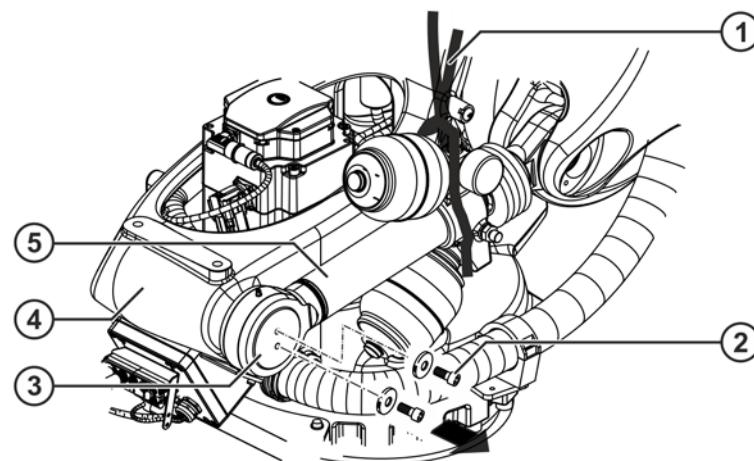

Fig. 11-21: Removing the counterbalancing system: rotating column
10. Remove 2 Allen screws and lock washers, and take the cover off the rotating column (>>> Fig. 11-21).